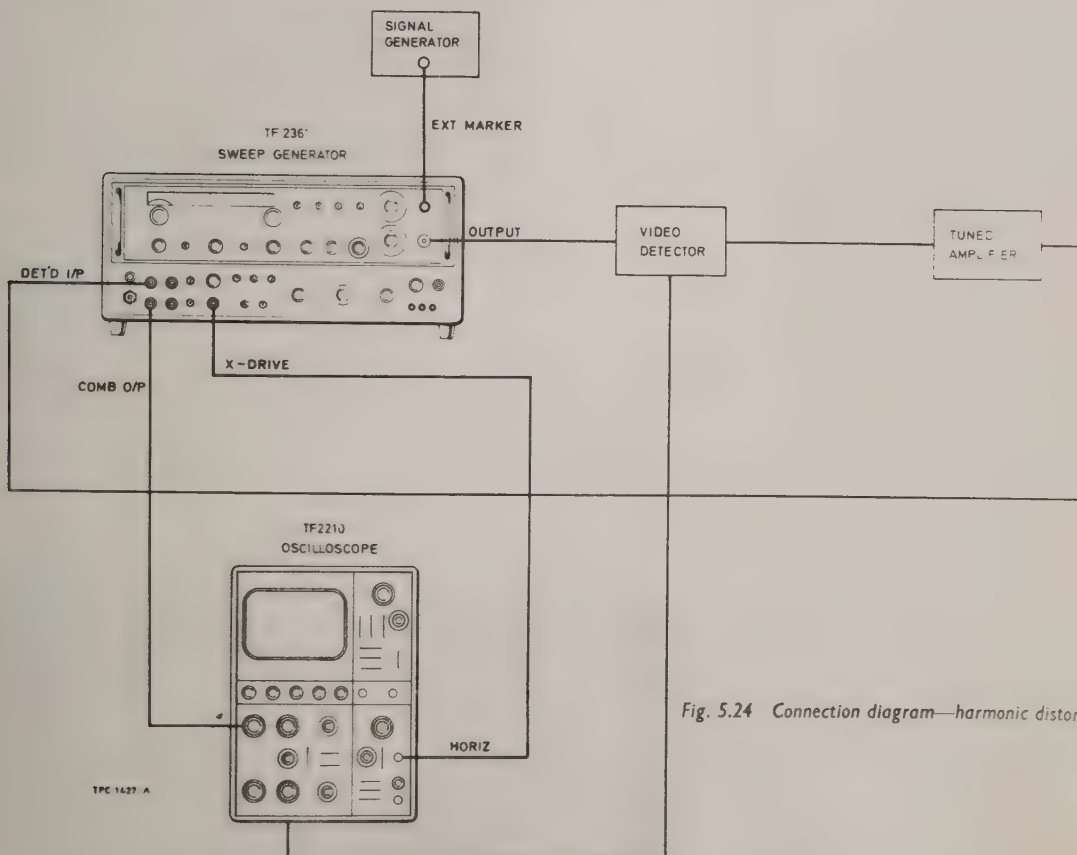

Fig. 5.24 Connection diagram—harmonic distortion check
(4) If the trace cuts the centre line the system flatness is outside its specified limits: improvement can be effected first by adjusting RV1 on board 14 (a.l.c. modulator), second by adjusting C15 on board 18 (a.l.c. amplifier) or T1 core on board 17 (mixer and pre-amplifier). However, if these last two are adjusted, it is likely that the harmonic distortion characteristics will be affected.
(5) Checks on harmonic distortion cannot be made without a spectrum analyser, or a special frequency selective harmonic free amplifier tuned to 50 kHz, 100 kHz, 1, 5, 10, 15, 20, 25, 30, 39 and 45 MHz. The connection diagram is shown in Fig. 5.24. Only general guidance is given here on harmonic distortion checks: detailed instructions can be obtained from the manufacturer, if required.